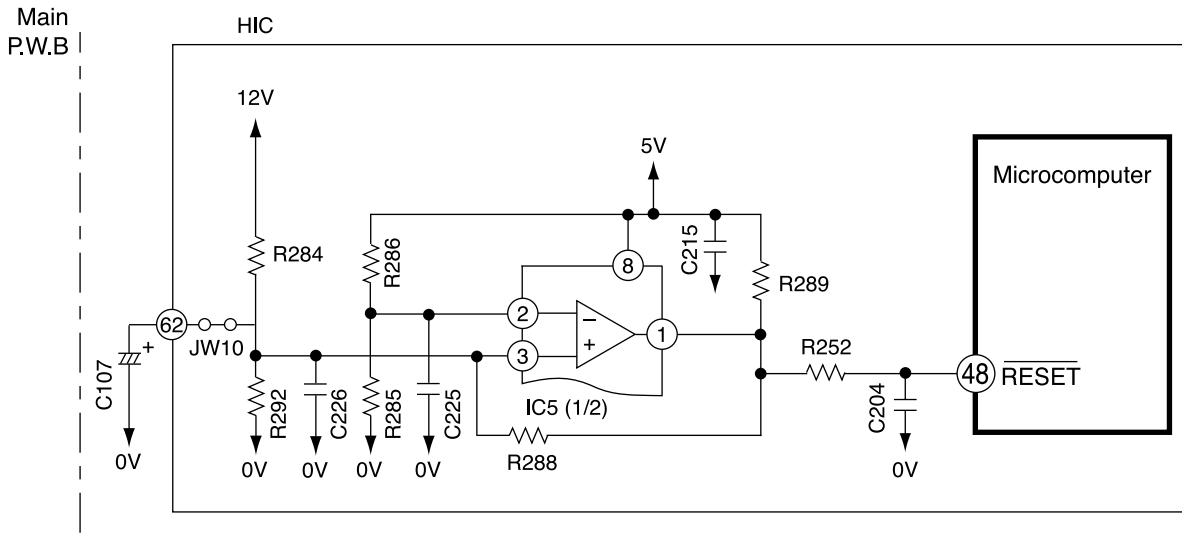
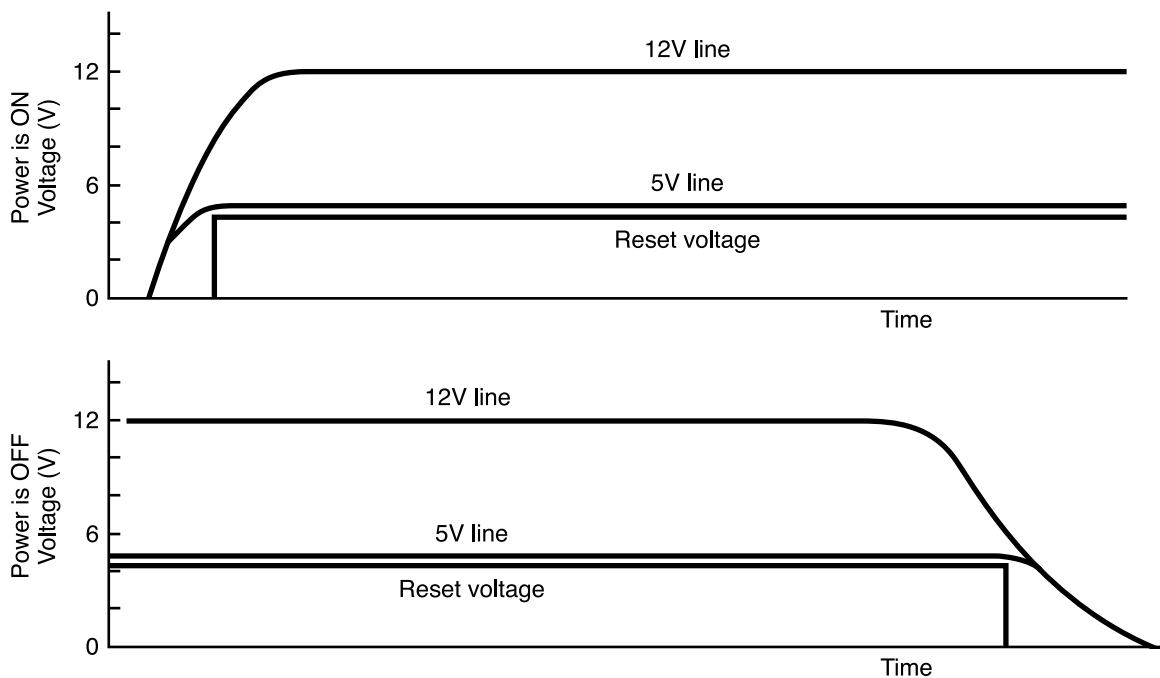

Fig. 10-1
Fig. 10-2
- Low voltage at pin ④⑧ resets the microcomputer, and HI activates the microcomputer.
- Fig. 10-1 shows the reset circuit and Fig. 10-2 shows waveform at each point when power is turned on and off.
- When power is turned on, 12V line and 5V line voltages rise and 12V line voltage reaches 10.9V and reset voltage input to pin ④⑧ of microcomputer is set to Hi.